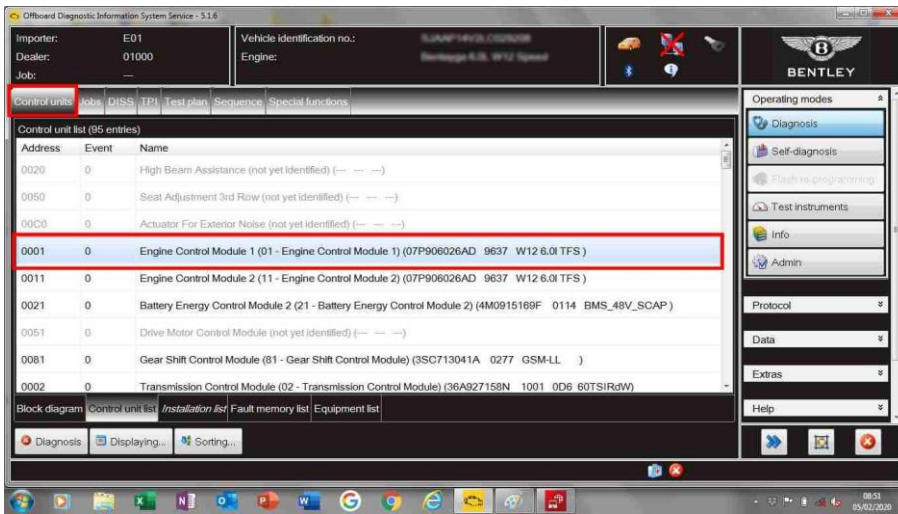

Figure 1
- Select **“Control units”** and then **“Engine Control Module 1 (01 – Engine Control Module 1)”** – Figure 1.